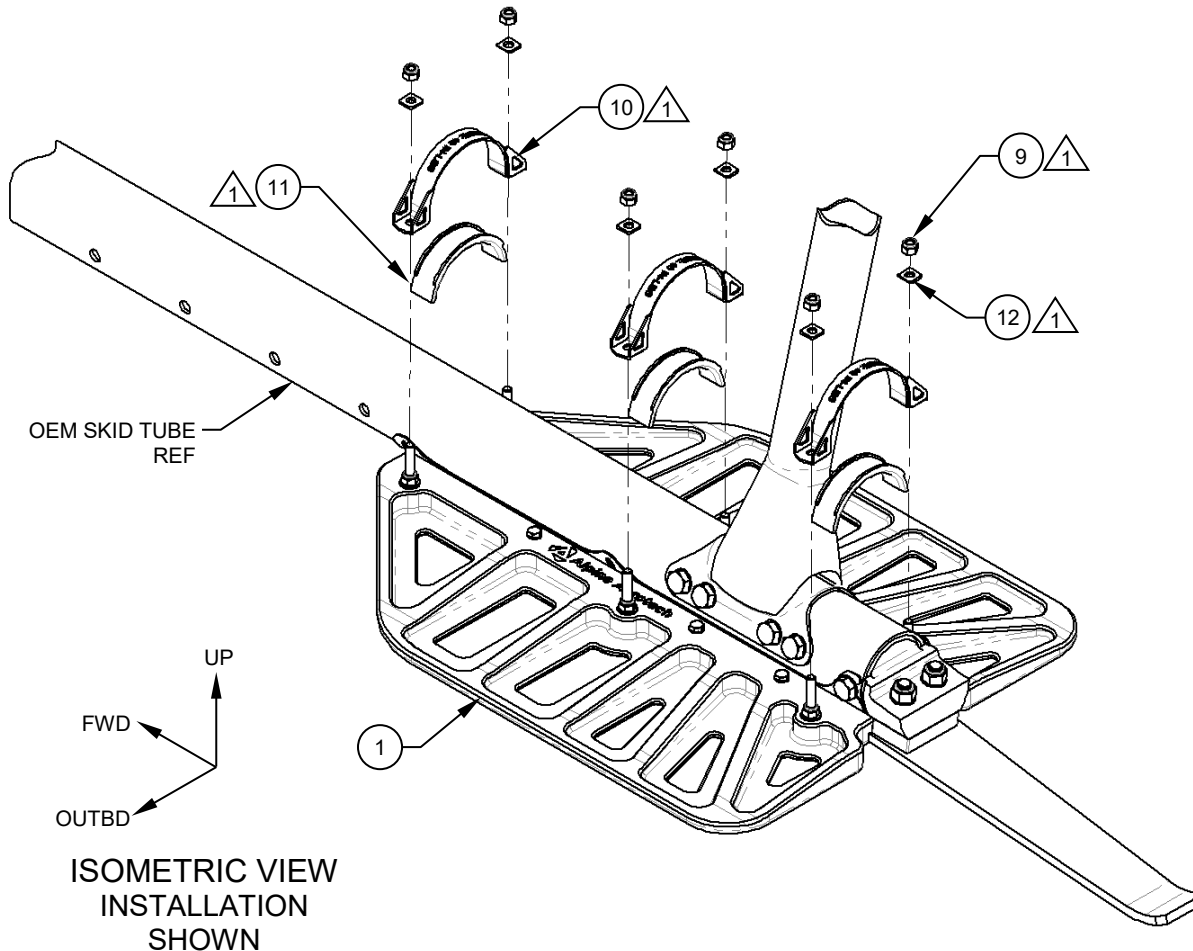

Figure 4
- While the aircraft is raised, position the Bear Paw, Detail (Item 1) under the skid tube. Reference Figure 4.
- Once the Bear Paw, Detail (Item 1) is under the skid tube in its approximate location, place the Strap, Assys (Item 10) and their respective Cap, Details (Item 11) on their corresponding bolts. Reference Figure 4.
NOTE: Ensure the Aft-most Strap, Assy (Item 10) and associated Cap, Detail (Item 11) are positioned between the cross-tube saddle fitting and the existing bolt at the aft end of the skid tube. Reference Figure 4.
6. Lower the aircraft onto the Bear Paw, Details (Item 1). After ensuring sufficient clearance between the Bear Paw, Details and the spring blade, torque the fasteners equally to 40 in/lbs. Reference Figure 4.